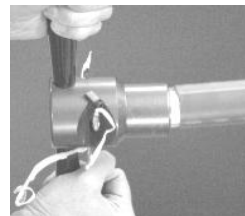

Figure 3
- 3) **Insert cable end into prep tool and turn tool clockwise** to remove material (Figure 3). When tool no longer cuts away material and spins freely, **remove tool while continuing to turn.** (For J, F, and FX jacket types, this process will remove .50" of jacket back. If necessary, **remove any jacket remnants with razor knife.**) **For R and FV jacket types,** the exposed outer conductor will be 4" when prep is completed. (Tools required: All-In-One Cable Prep Tool and Razor Knife)